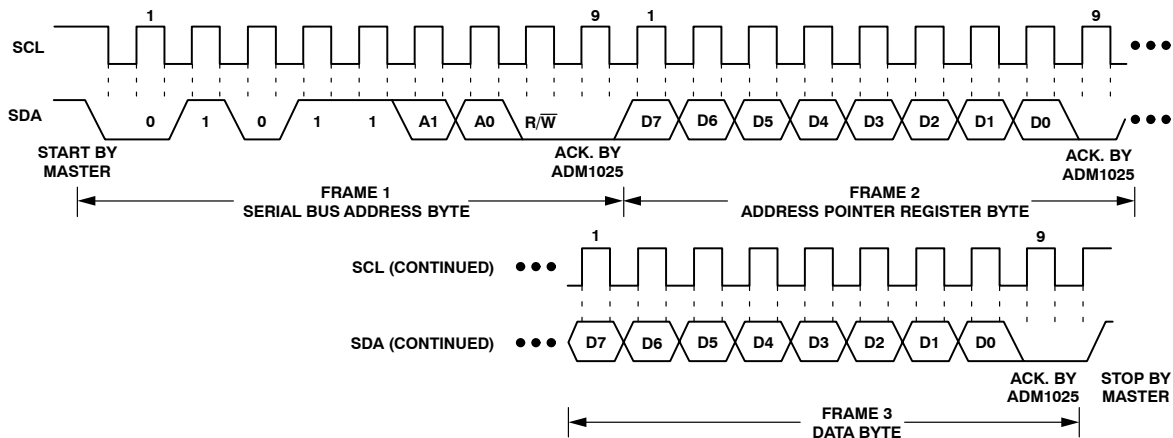
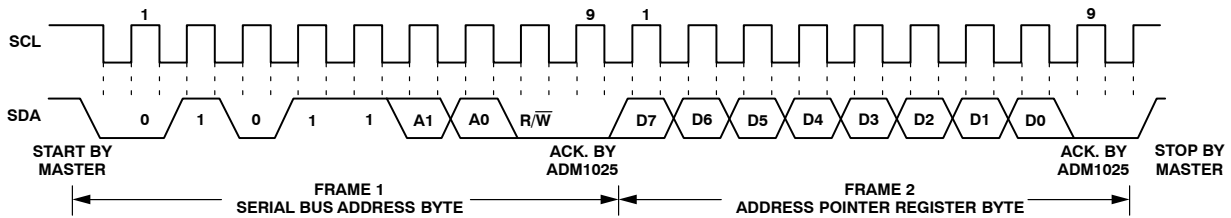
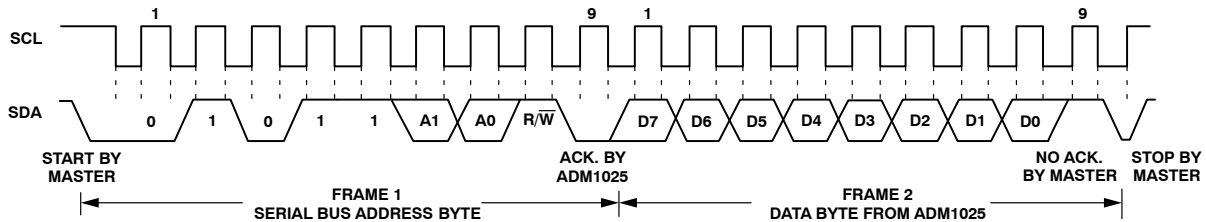

Figure 10. Writing a Register Address to the Address Pointer Register, then Writing Data to the Selected Register
Figure 11. Writing to the Address Pointer Register Only
Figure 12. Reading Data from a Previously Selected Register
This is illustrated in Figure 10. The device address is sent over the bus followed by  $R/\overline{W}$  set to 0. This is followed by two data bytes. The first data byte is the address of the internal data register to be written to, which is stored in the Address Pointer Register. The second data byte is the data to be written to the internal data register.
1. If the ADM1025/ADM1025A's Address Pointer Register value is unknown or not the desired value, it is first necessary to set it to the correct value before data can be read from the desired data register. This is done by performing a write to the ADM1025/ADM1025A as before, but only the data byte containing the register address is sent, since data should not be written to the register. This is shown in Figure 11. A read operation is then performed consisting of the serial bus address, R/W bit set to 1, followed by the data byte read from the data register. This is shown in Figure 12.
2. If the Address Pointer Register is known to be already at the desired address, data can be read from the corresponding data register without first writing to the Address Pointer Register, so Figure 11 can be omitted.
2. In Figure 10 to Figure 12, the serial bus address is shown as the default value 01011(A1)(A0), where A1 and A0 are set by the three-state ADD pin.